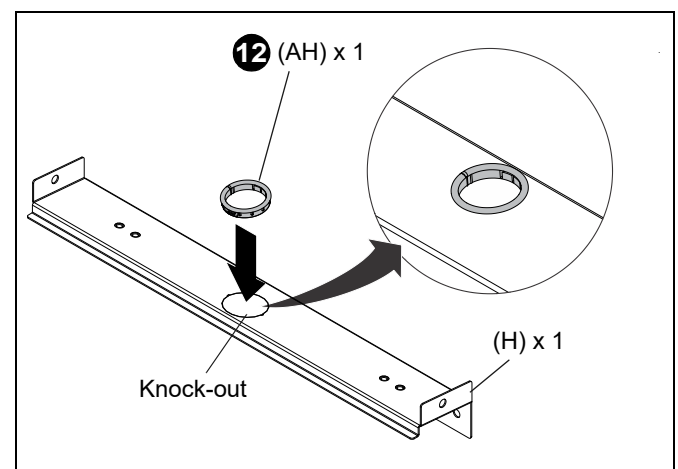

Figure 19
12. **CONFIGURATION 2 ONLY:** Remove the knock-out panel from one horizontal cover (H) and install a grommet (AH) into the opening. (See Figure 19)